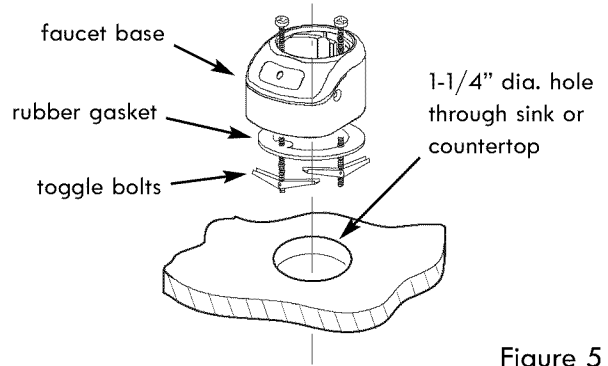

Figure 5
1. Locate the faucet base (See Fig. 5) and feed the toggle bolts down through the hole until the faucet base is square against the mounting surface (sink or countertop). The rubber gasket should be between the faucet base and mounting surface.